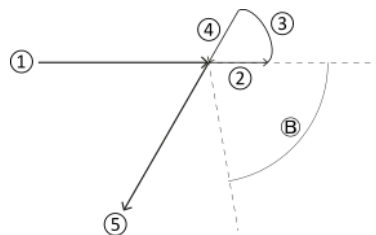

Figure 11.3: Joint type: Joint 2
Legend of figure 11.3 on page 197 : (1) Pre-joint line, (2) Tail, (3) Jump line, (4) Head, (5) Post-joint line, (B) Min angle for joint 2